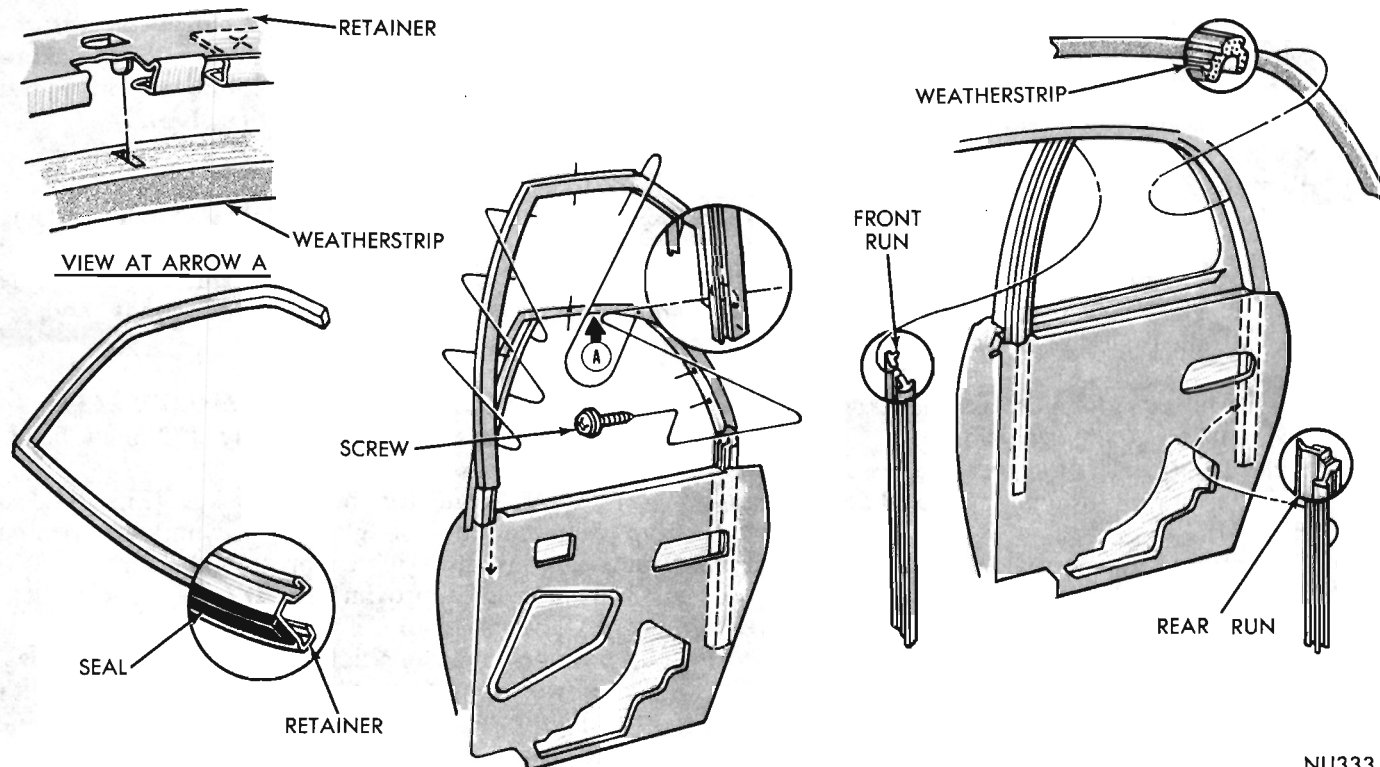

Fig. 46 - Weatherstrip Retainer and Runs
- (1) Remove glass assembly.
(2) Remove run from front top and rear retainers (Fig. 46).
(3) Remove weatherstrips and screws securing weatherstrip retainers to roof rail and lock pillar.
(4) Remove weatherstrip retainers from quarter panel.
(1) The weatherstrip retainer seal is a self adhesive type.
(2) Insert retainer front leg in panel opening and align attaching holes with holes in body panel (Fig. 46).
(3) Secure retainer to roof rail with screw, beginning with hole at radius.
(4) Secure retainer to lock pillar with screw.
(5) Position upper weatherstrip to retainer and index to front corner and tab of retainer.
(6) Press weatherstrip into retainer.
(7) Position glass front run to retainer, loading bottom leg between panels at belt line.
(8) Index upper front corner, making a water tight joint and to tab at bottom of retainer.
(9) Press into retainer full length to secure.
(10) Through large access hole, position rear run to retainer, indexing to lower end of roof rail weatherstrip to create a seal.
(11) Press securely into retainer for full length.
(12) Install quarter window assembly.